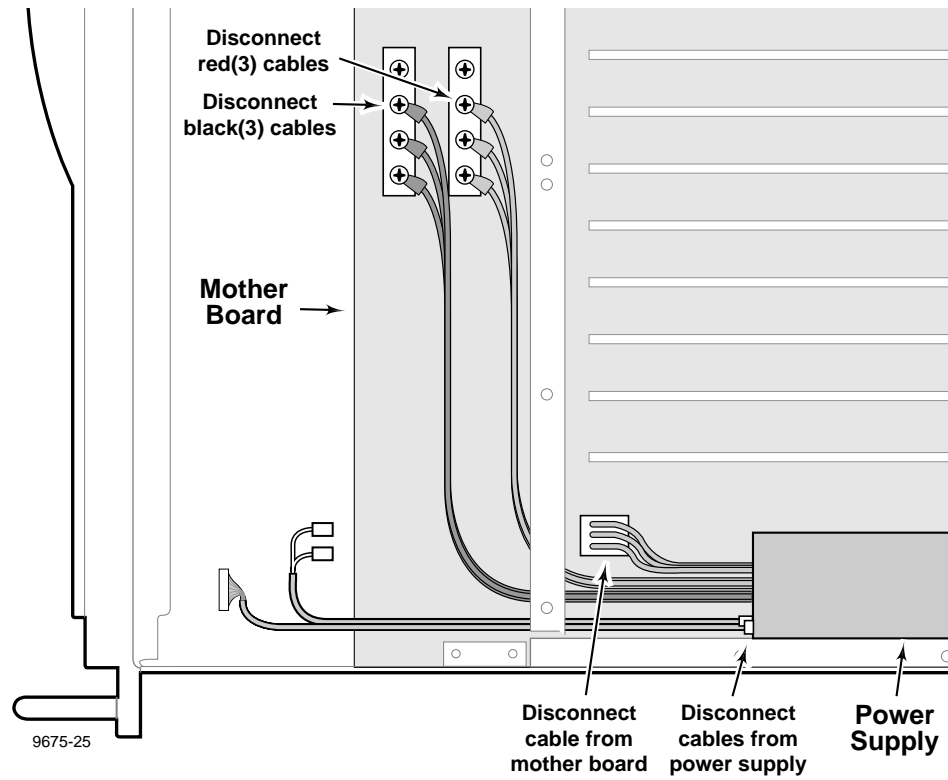

Figure 6-27. Power Supply Cable Disconnections
11. Disconnect all other cables from the power supply (Figure 6-27).
4. Reconnect all other previously removed cables to the power supply (Figure 6-27, page 6-41).